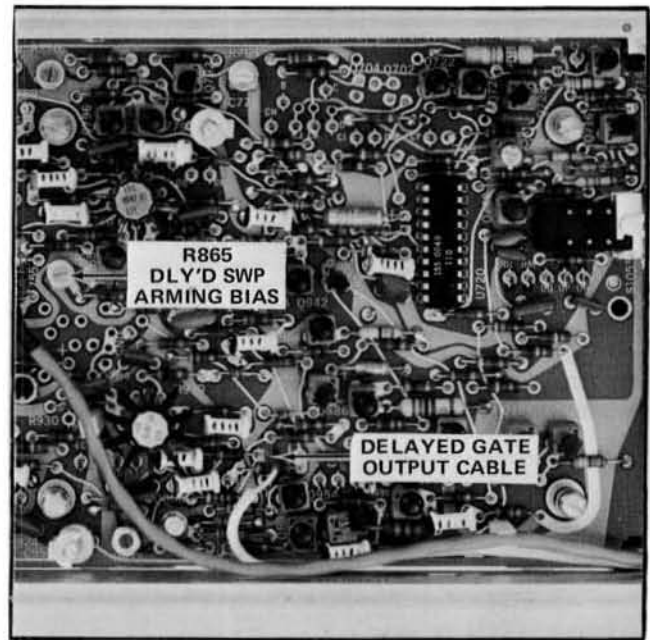

Fig. 5-2. Location of Dly'd Swp Arming TD Bias adjustment R865 (Sweep Board).
k. Disconnect the Delayed Gate Output cable from the sweep board (see Fig. 5-2).
i. ADJUST—Dly'd Swp Arming TD Bias R865 (see Fig. 5-2) for no display with the Delayed Triggering LEVEL control at both extremes of rotation.